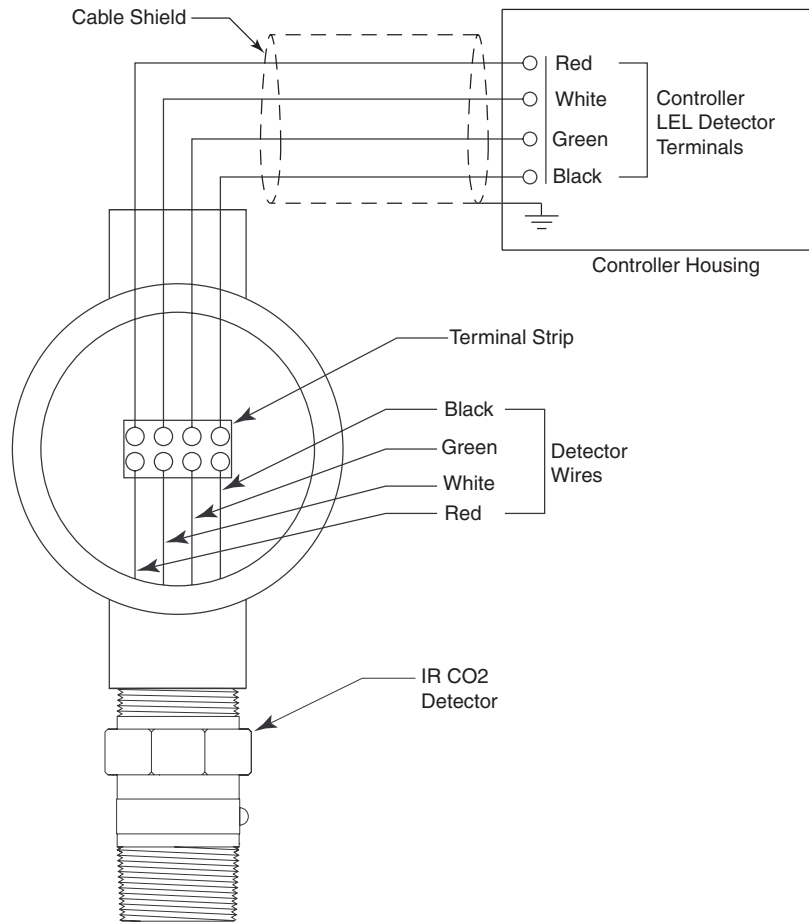

Figure 3: Wiring the CO₂ Detector to a Controller
As mentioned in “Description” on page 2, the IR CO₂ detector wires to an RKI controller the same way as an RKI LEL detector, to the LEL detector terminals. See Figure 3 below for the wiring connections.
If the detector is mounted directly to a controller, it is normally factory wired. Confirm that the detector’s wires are connected to the appropriate controller detector terminals and skip to “Start Up” on page 7. See Figure 3, the controller operator’s manual, and the controller’s detector head specification sheet for the 61-0191RK detector for the wiring connections.
7. If the detector is installed directly on a controller, connect the detector leads to the appropriate detector terminal strip terminals. See Figure 3 on page 6 for wiring to a generic controller. See the controller operator's manual and the controller's detector head specification sheet for the 61-0191RK detector for wiring specific to your controller.
If the detector is installed remotely from a controller in a junction box, connect the detector leads to the terminal block the same way the old detector was wired (see Figure 3 on page 6). See the controller operator's manual and the controller's detector head specification sheet for the 61-1004RK detector to verify the connections to the controller are correct.